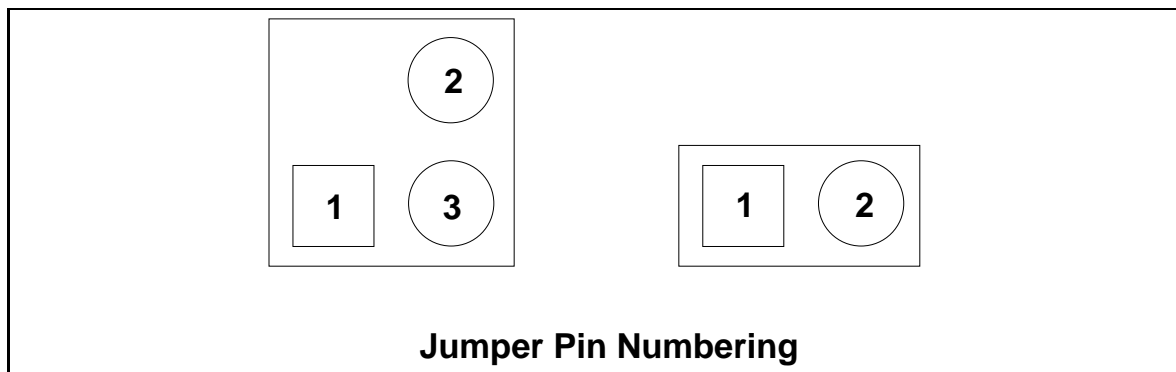

Figure 14: RoboBoard Jumper Pin Numbering
- 2– Install the eight shunts onto the male headers as follows (see Figure 14 for how pins are numbered):